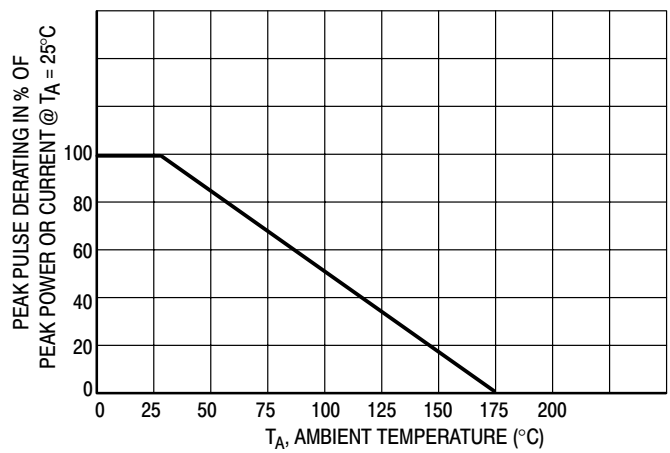

Figure 2. Pulse Derating Curve
1. Nonrepetitive current pulse per Figure 5 and derated above $T_A = 25^\circ\text{C}$ per Figure 2.